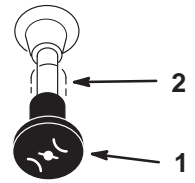

Figure 15
7. After the engine starts, move the choke to Off (Fig. 15). If the engine stalls or hesitates, move the choke back to On for a few seconds. Then move the throttle lever to the desired setting. Repeat this as required.